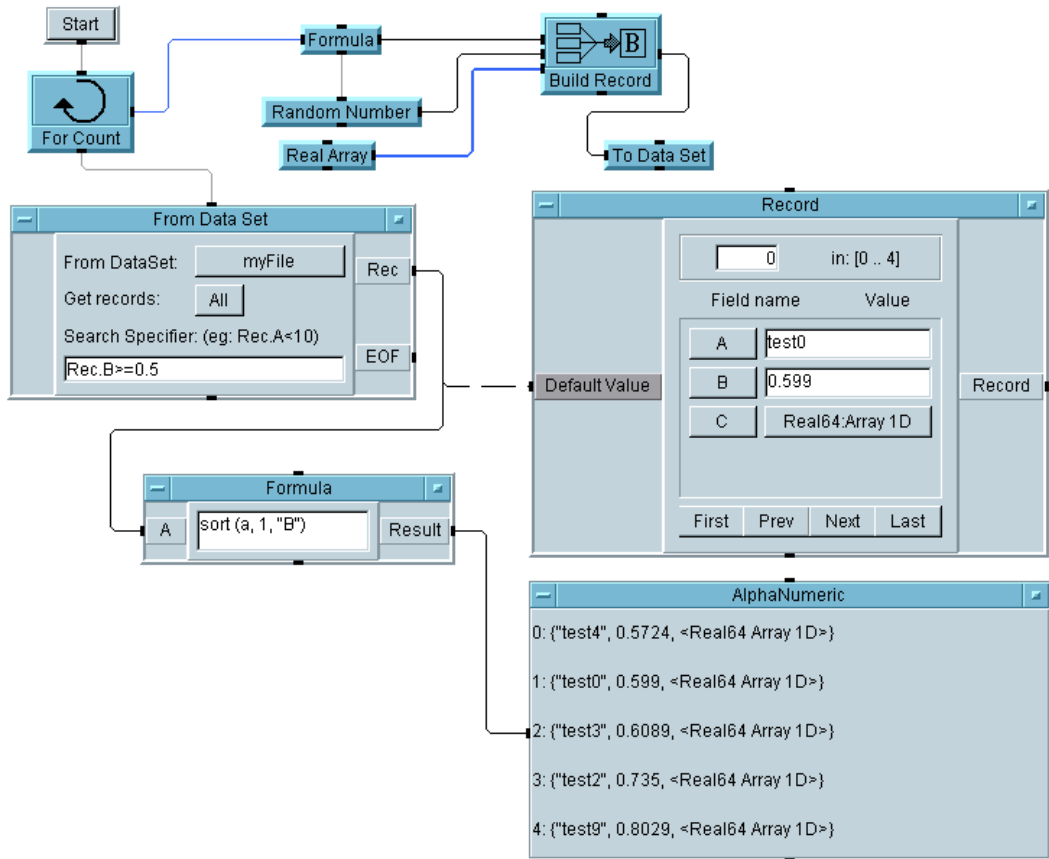

Figure 5-20. A Sort Operation on a Record Field
- Run the program a few times. It should look similar to Figure 5-20. Notice that the program sorts all of the records returned from the DataSet file in ascending order by field B.